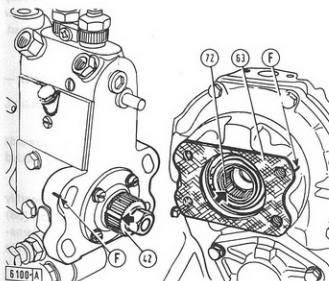

Fig. 52 - Refitting the Injection Pump to the Engine
- Smear gasket (63, Fig. 52) with jointing compound and reposition over the mounting face.
- Offer up the pump ensuring that the machined-off tooth on drive bush (42) meshes with the unmachined space width on drive sleeve (72), turn the pump body until the external timing marks (F) are in register and refit and retighten the retaining screws.